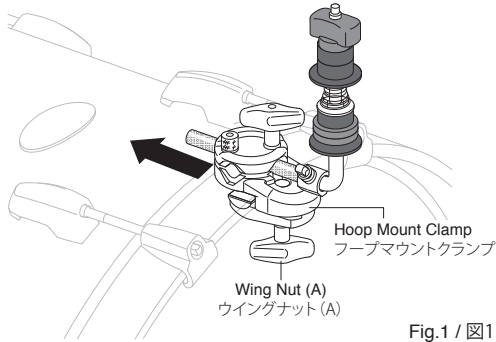

Fig.1 / 図1
1. Loosen Wing Nut (A) and place the CLA-130 onto the Bass Drum Hoop at the recommended position, as shown in (Fig.1). Next, tighten Wing Nut (A) to secure the clamp in place. The Hoop Mount Clamp position is adjustable on the Bass Drum Hoop to accommodate various cymbal sizes.
1. フープマウントクランプのウイングナット (A) をゆるめ、バスドラムフープを挟み込み、再度しっかりと締めて固定します (図 1)。